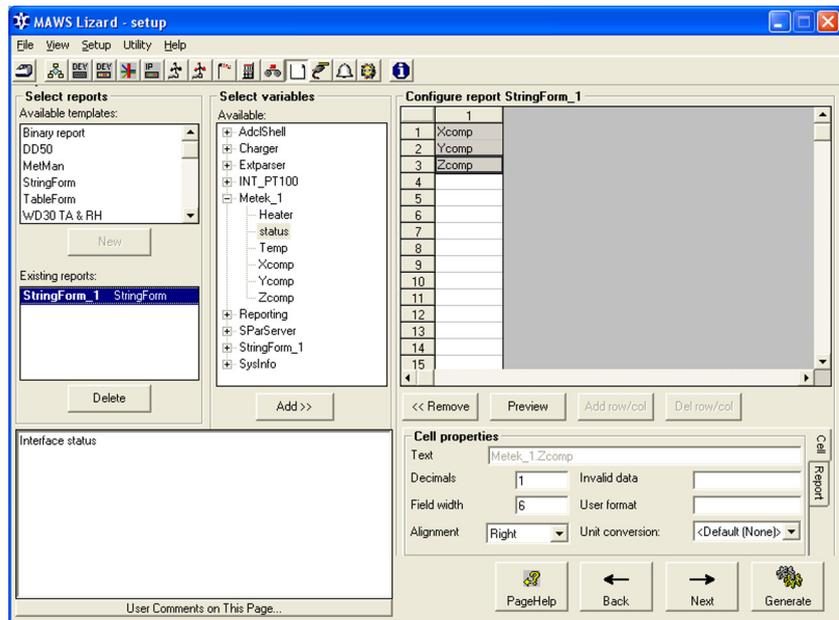

Figure 30 Reports View: Checking Ultrasonic Anemometer Variables
1. Select the **Reports** view; see Figure 30 on page 71.